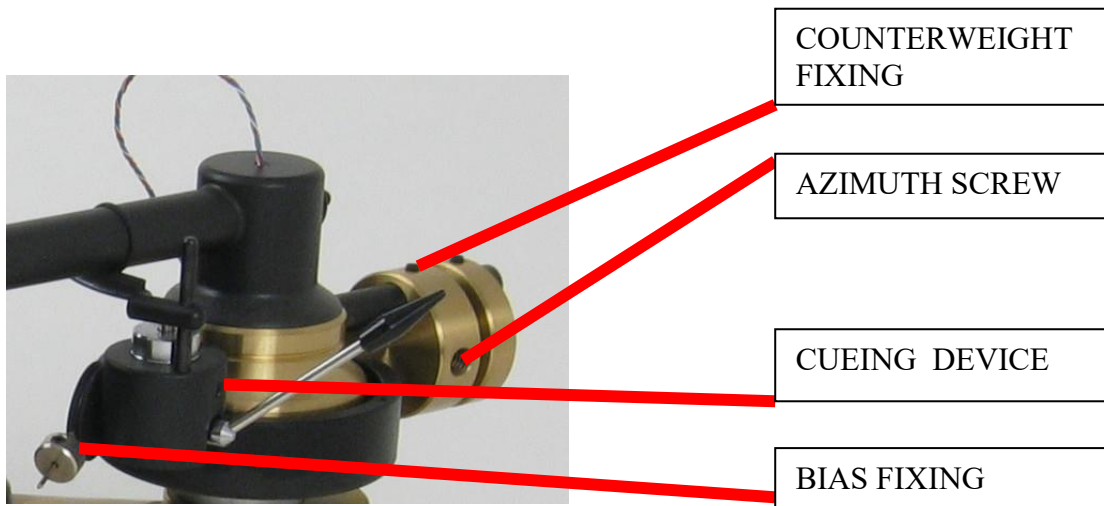

Fig.3. with single thick counterweight
Level the turntable horizontally. Any change will affect the azimuth. Observe the mirror image of the cartridge on the record and adjust the tilt of the cartridge so that the mirror image and the cartridge is vertical and straight. For this adjustment, rotate the thinner counterweight. If you find that the tilt is excessive, then first rotate the thicker counterweight and then make fine adjustments with the thinner counterweight. See Fig.3
Catch the string loop onto the hook which is at the back of the tube base. Be sure that the string runs in the groove. Adjustments are made by moving the small counterweight after releasing it with the Allen key (1.5mm). The maximum position is for 2.5 g tracking force and the minimum is for 1 g. Finer adjustment should be done using a test record. Consult your dealer. See Fig. 3.
The starting position is in a line with its mirror image. For fine adjustment a test record and measurements are need it. In the thicker counterweight, however, there is a small screw on the right, which can be rotated using Allen key (3 mm). Rotation of the screw will slightly change the azimuth. Counter clockwise rotation tilts the cartridge to the left and vice versa. Counting rotations enables you to listen to improvements in focus and to return to the original position. If necessary consult your dealer. See Fig. 3.